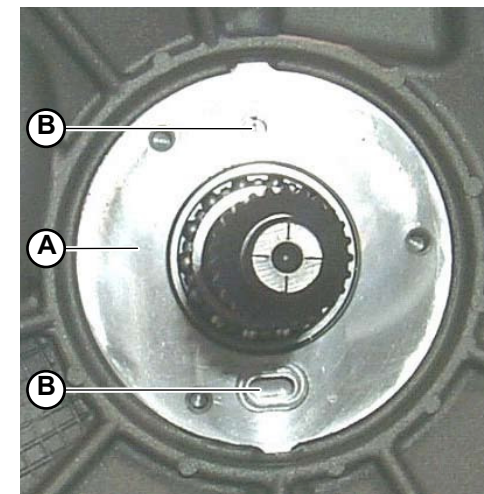

Fig.7
2. Thoroughly clean the machined area (**A-Fig.7**) of the clutch sleeve housing on the clutch bell and the seats of the O-rings (**B-Fig.7**).